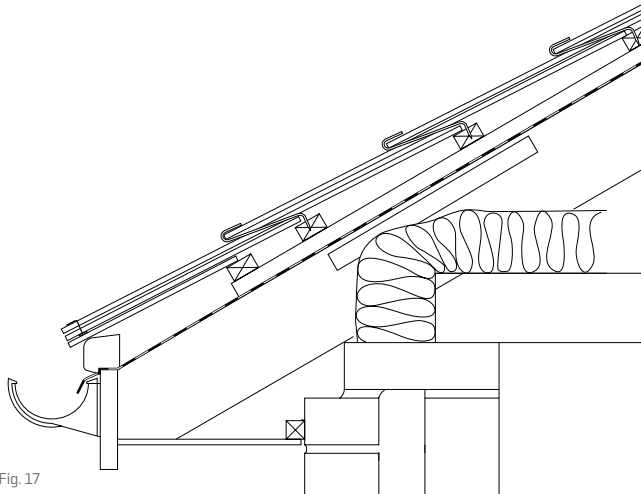

Fig. 17
- Each full size slate on this course is now fixed with a 150mm long spiked hook driven into the batten between the edges of the two slates below (Fig. 17).